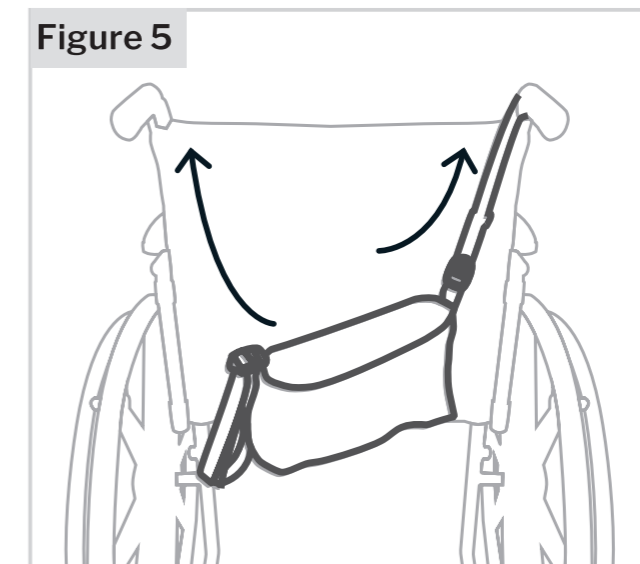

Figure 5
C. Place the air supply unit's straps on the wheelchair's handles and tighten them up - **figure 5**.